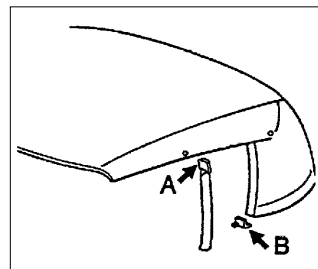

Figure 3
- a. As of July, 1994, the "B" pillar seal is modified as shown in Figure 3 Arrow A.
- b. As of November 1994, the "B" pillar seal is modified on the Cabrio top frame Figure 3 arrow B.